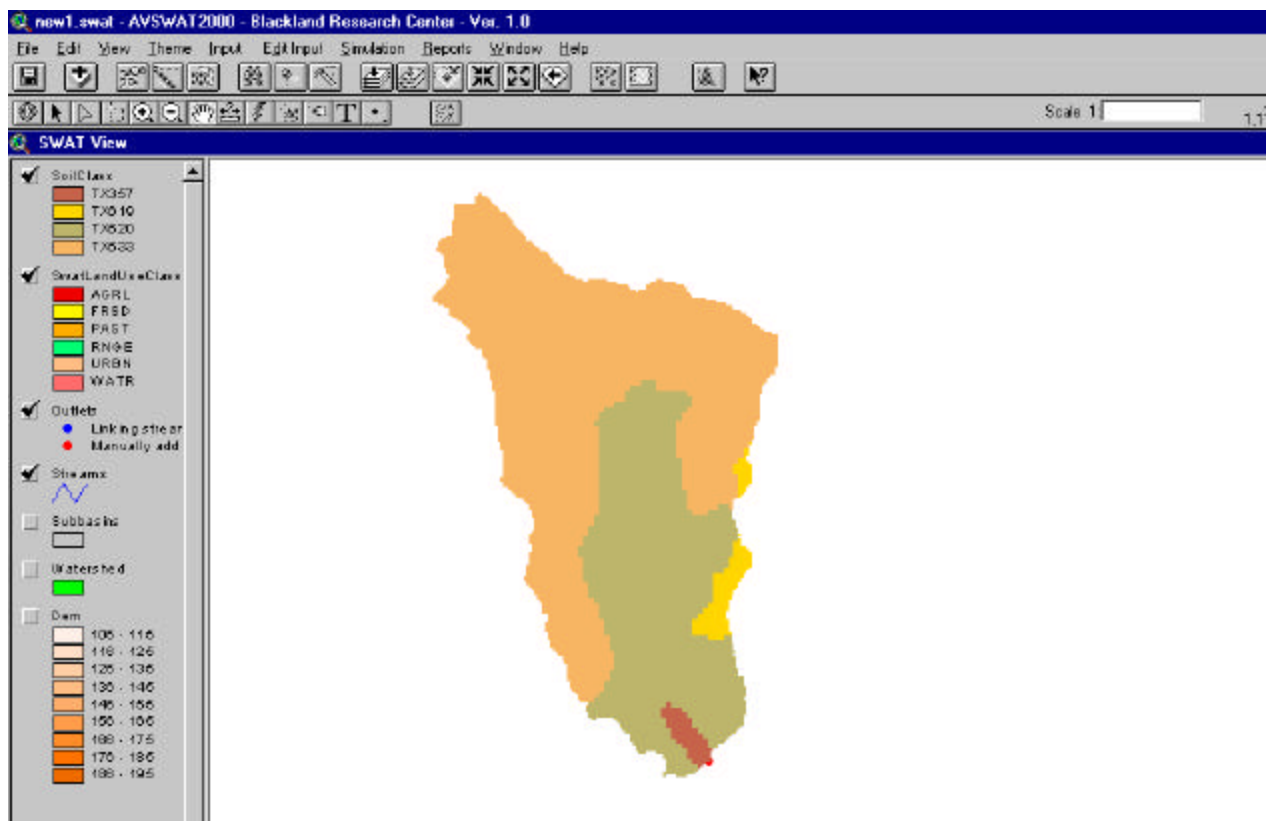

Figure 6.60
11. The interface will activate the *SWAT View* (Figure 6.60).